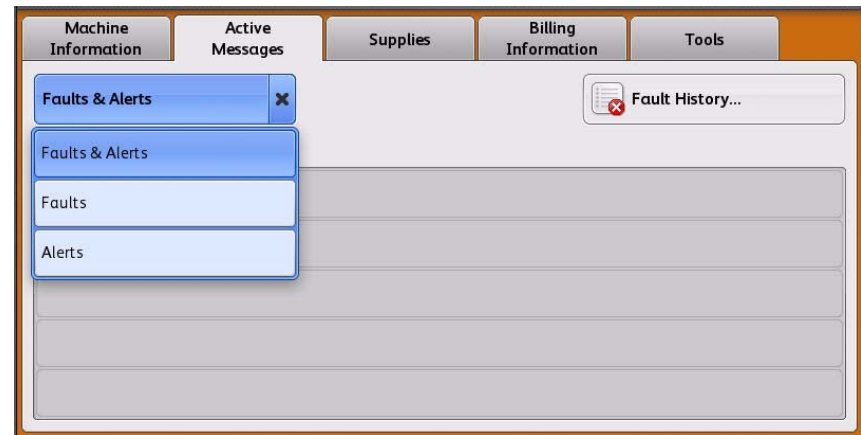

Figure 2 Filter displayed messages
2. Touch the Active Messages tab shown in Figure 2.